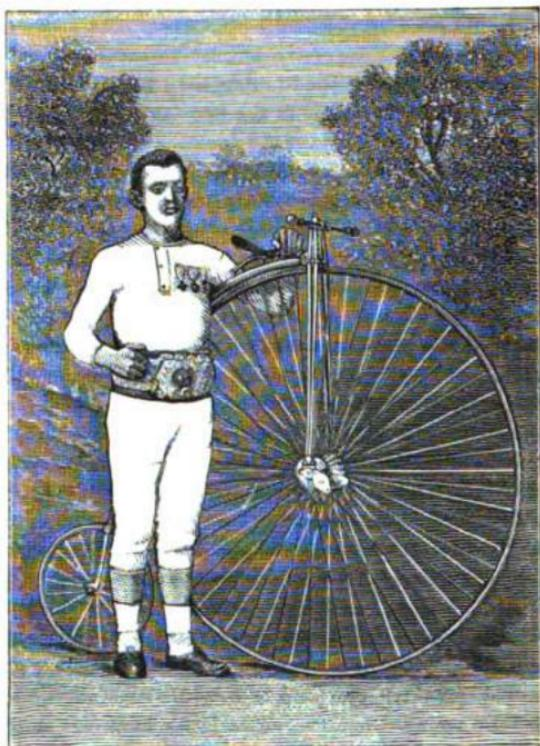

FIG. 14. THE D.H.F. PREMIER.
74. *The D.H.F. Premier* (Hillman and Herbert, Premier Bicycle Works, Coventry).—In this machine (Fig. 14) the now celebrated double hollow